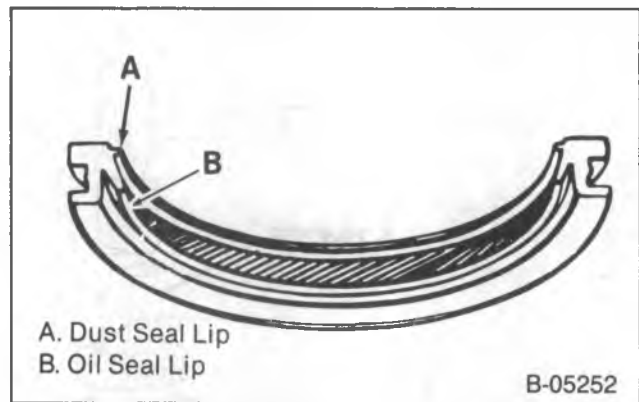

Figure 48—Crankshaft Rear Oil Seal Half
2. Lower seal half (135).
- Insert the seal half into the rear main bearing cap (135). Use the tool to protect the seal half from the sharp edge of the seal seat. Feed the seal half into the rear main bearing cap, using light finger pressure. Make sure the oil seal lip faces the front of the engine (figure 48).
3. Rear main bearing cap (135) as outlined later.
- Insert the seal half into the rear main bearing cap (135). Use the tool to protect the seal half from the sharp edge of the seal seat. Feed the seal half into the rear main bearing cap, using light finger pressure.
- Make sure the oil seal lip faces the front of the engine (figure 48).